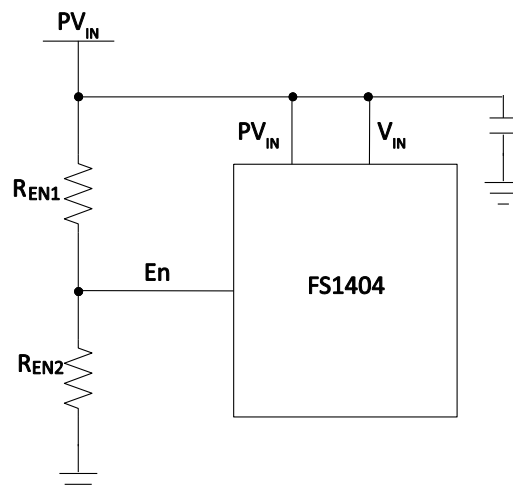
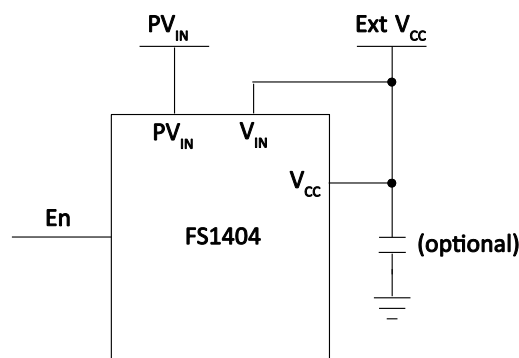

Figure 6 Single supply configuration: internal LDO regulator, adjustable PV_{IN_UVLO}
Figure 7 Using an external bias voltage
The FS1404 has an integrated Low Drop-Out (LDO) regulator, providing the DC bias voltage for the internal circuitry. The typical LDO regulator output voltage is 5.2V. For internally biased single-rail operation, the V_{IN} pin should be connected to the PV_{IN} pin (Figure 6). If an external bias voltage is used, the V_{IN} pin should be connected to the V_{CC} pin to bypass the internal LDO regulator (Figure 7).
- It can be used to implement a precise input voltage UVLO. The input of the En pin is derived from the PV_{IN} voltage by a set of resistive dividers, R_{EN1} and R_{EN2} (Figure 6). Users can program the UVLO threshold voltage by selecting different ratios. This is a useful feature that stops the FS1404 regulating when PV_{IN} is lower than the desired voltage.